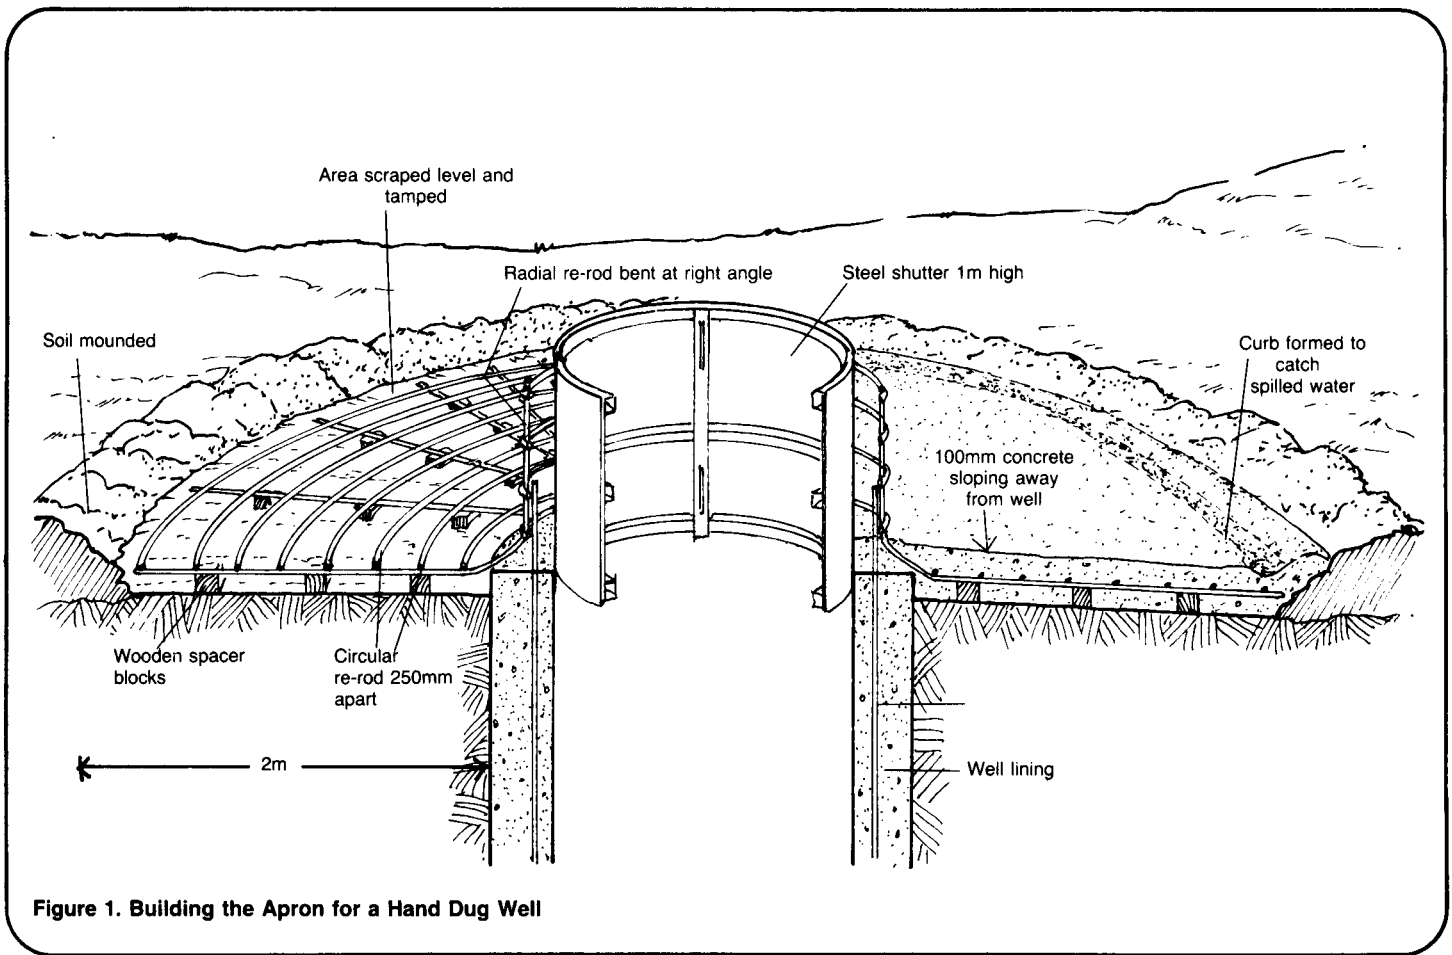

Figure 1. Building the Apron for a Hand Dug Well
3. Bend 2.9m-long sections of re-rod into right angles and tie them with wire to the protruding re-rods, so that 0.9m is in the vertical position and 2.0m is in the horizontal position radiating out from the well. Place small wooden spacer blocks under the horizontal portion of the re-rods, as shown in Figure 1.